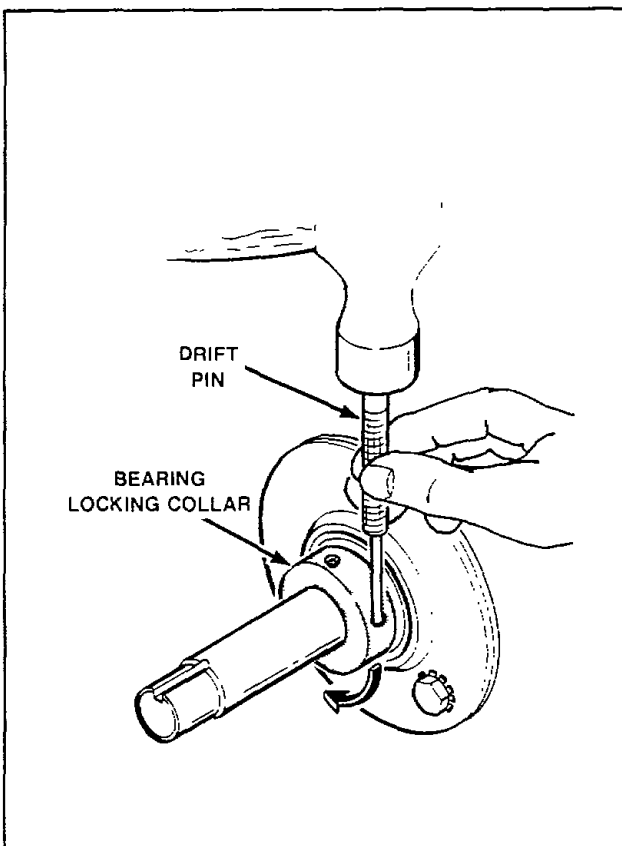

Figure 35
- 3 Break rear bearing locking collar loose with a drift pin in the collar hole, *Figure 35*.
3. Break front bearing locking collar loose with a drift pin in the collar hole, *Figure 35*.